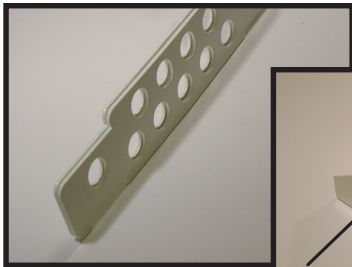

FIGURE 2a
- i. Place the two shackle Cross Members side-by-side (as shown in figure 2a).